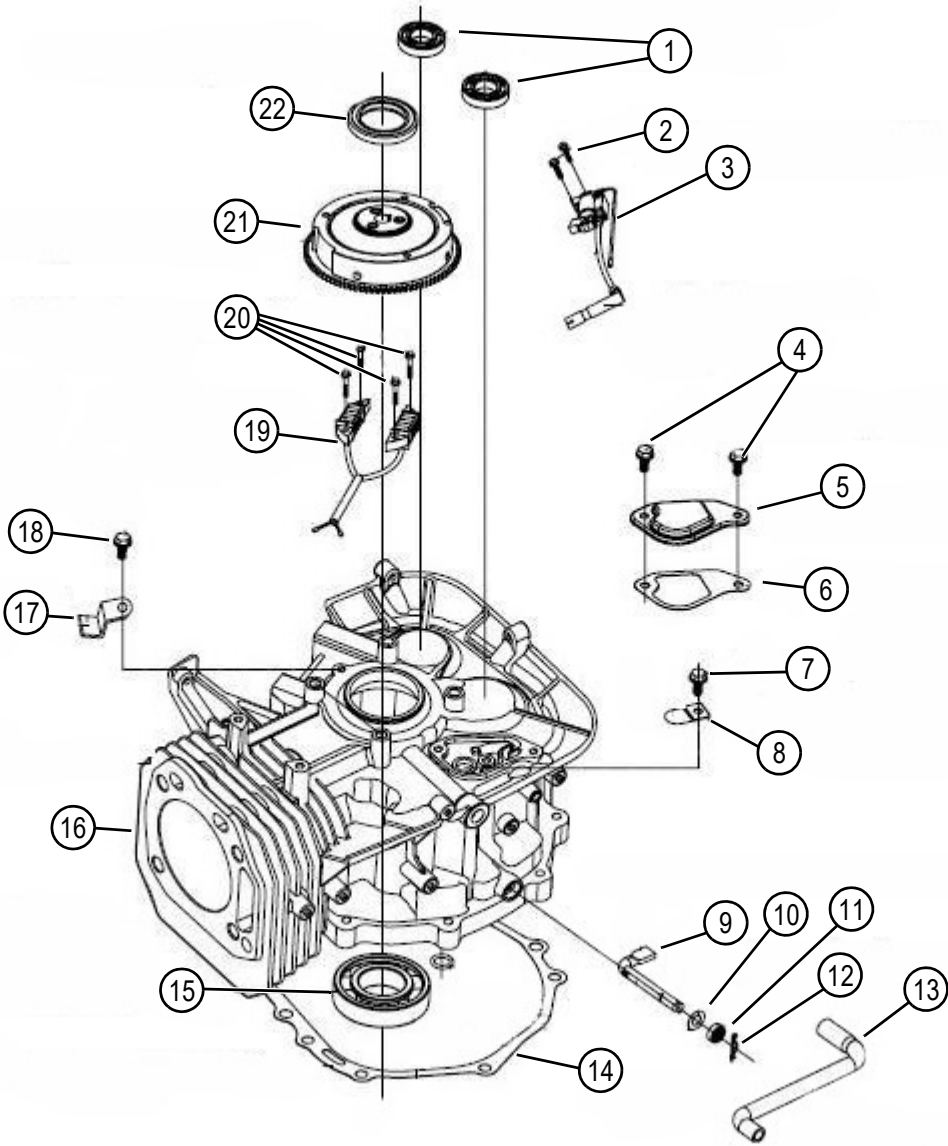

Figure 4-12: Flywheel and Fan Assembly
3. See Figure 4-12. Check the cylinder head for warping with a straight edge and a feeler gauge.